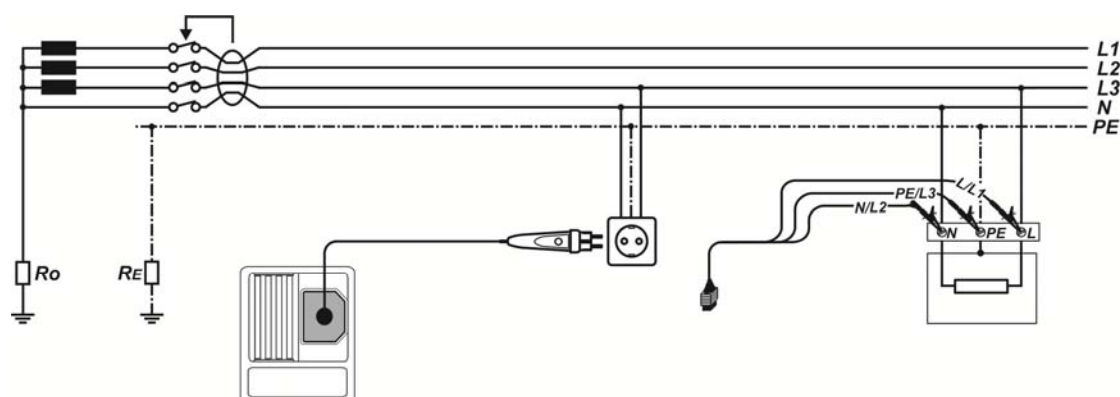

Figure 5.17: Connecting the plug commander and the 3-wire test lead
- ❑ **Connect** test leads to the item to be tested (see Figure 5.17).
- ☐ **Connect** test leads to the item to be tested (see Figure 5.17).
- ❑ **Connect** test leads to the item to be tested (see *Figure 5.17*).
<ul style="list-style-type: none"> <input type="checkbox"/> Select the RCD function using the function selector switch. <input type="checkbox"/> Set sub-function to AUTO using UP / DOWN keys. <input type="checkbox"/> Set test parameters (if necessary). <input type="checkbox"/> Connect test cable to the instrument. <input type="checkbox"/> Connect test leads to the item to be tested (see Figure 5.17). <input type="checkbox"/> Press the TEST key to perform the test. 	Start of test